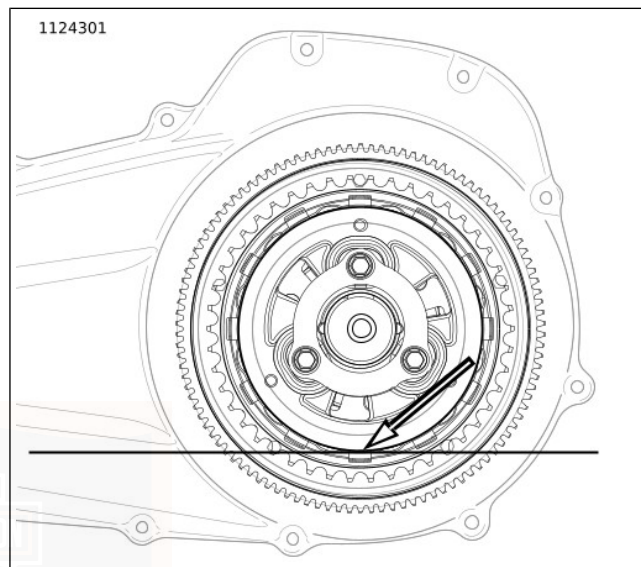

Figure 71. Primary Lubricant Level
- b. See Figure 71. Proper level is approximately at bottom of pressure plate OD.